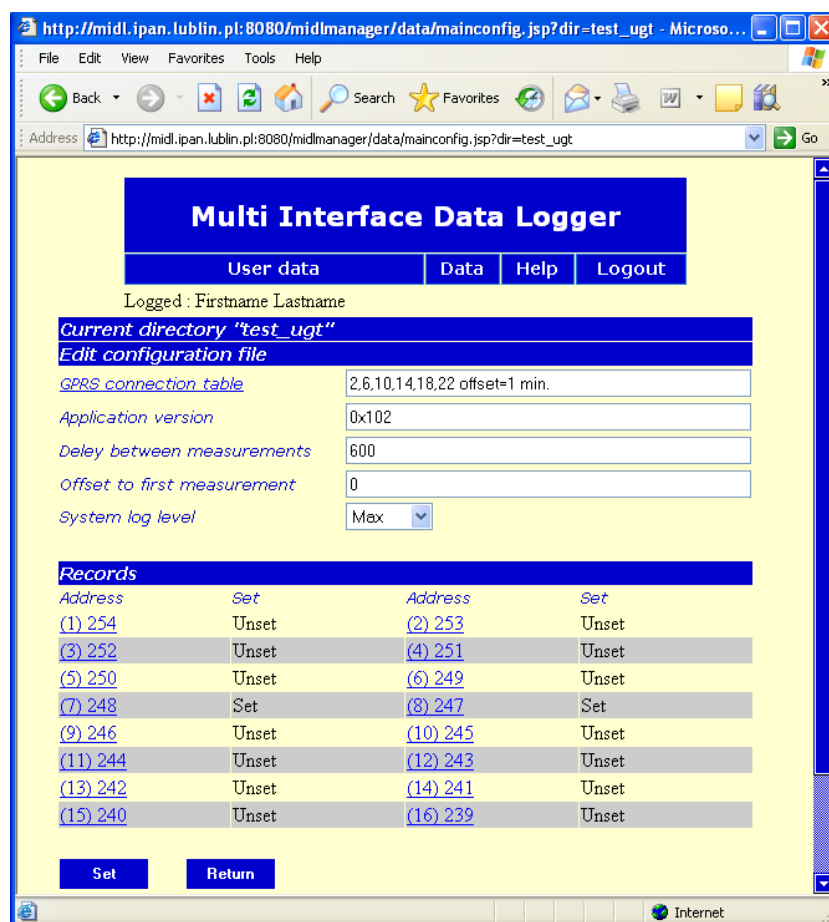
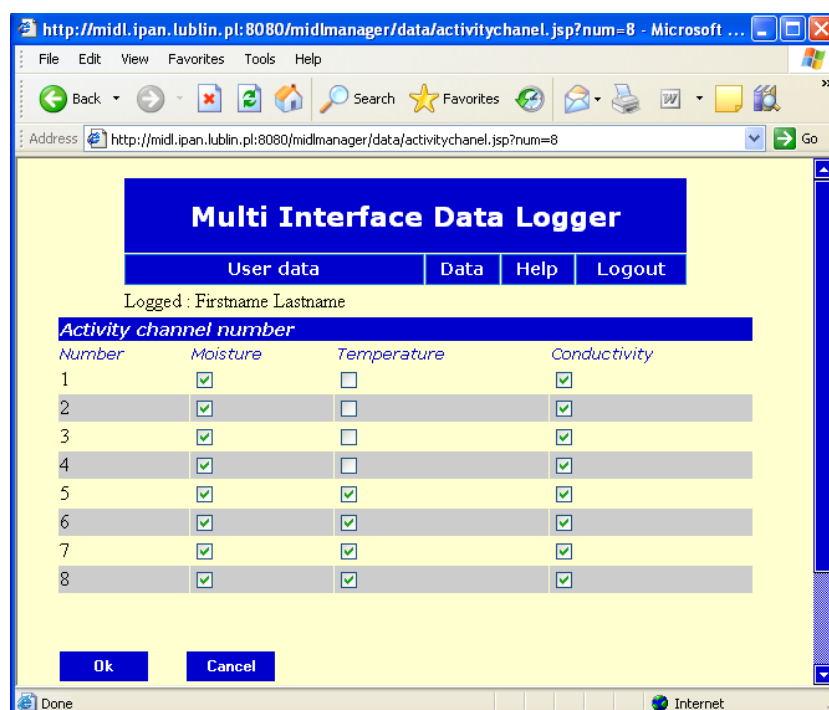

Fig. 11. Measurement and transmission time schedule window
Fig. 12. Setting the activity of individual channels in selected TDR/MUX/mps device
- data8.txt and data9.txt that contain data values collected from the measurement devices according to the selected measurement configuration (measurement script file). Table 3 presents a part of the data8.txt file with the first eight values (after date and time), four values of soil temperature and eight values of conductivity measured every ten minutes. The measured probes and variables of selected probes are controlled by the user with the Activity channel number window (Fig. 12).
Probes measurement and GPRS communication schedules are defined by the user in Data bookmark after pressing Edit configuration file hyperlink, in the window presented in Fig. 11. The description of this window is presented in Table 5 and the following pages.
The section Records in Fig. 11 enables to activate measurement channels in up to 16 TDR/MUX/mps devices connected to the MIDL-2 data logger. They are identified by addresses from 254 to 239, which corresponds to the last two characters in the serial numbers of TDR/MUX/mps devices, i.e. from ...FE to ... EF. The active devices are marked as Set, inactive as Unset. Pressing the hyperlink in the device number the user can select measurement channels in individual devices. The example Activity channel number is presented in Fig. 12.